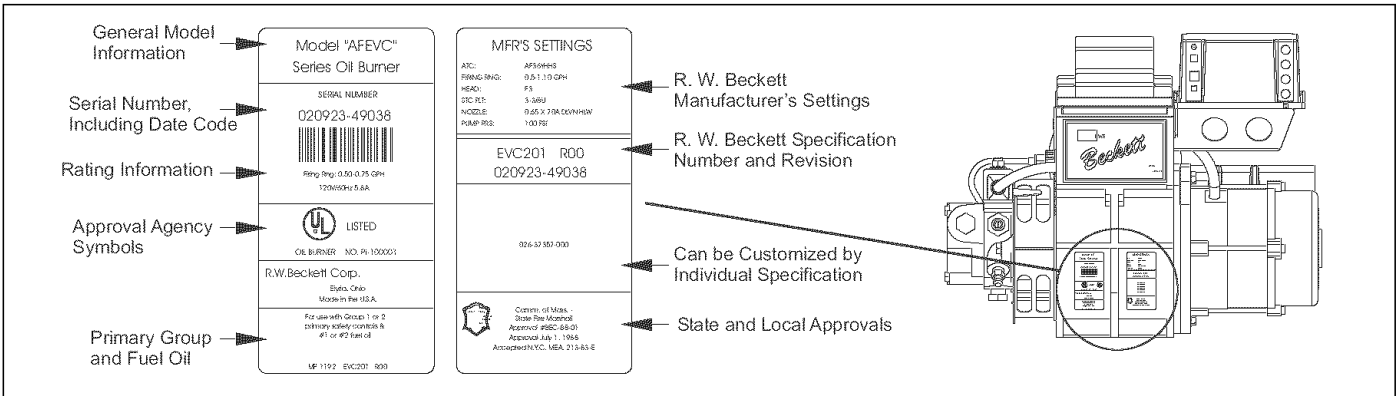

FIGURE 1: Label Location
WHEN CONTACTING BECKETT FOR SERVICE INFORMATION - *Please record the burner serial number (and have available when calling or writing). You will find the serial number on the Underwriters Laboratories label, located on the left rear of the burner, or cover mounting plate. See Figure 1.*
- State and local approvals are shown on burner rating label (See Figure 1).